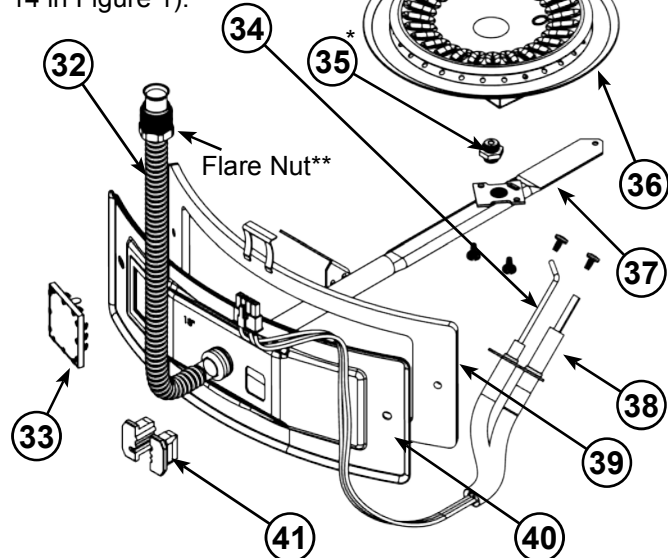
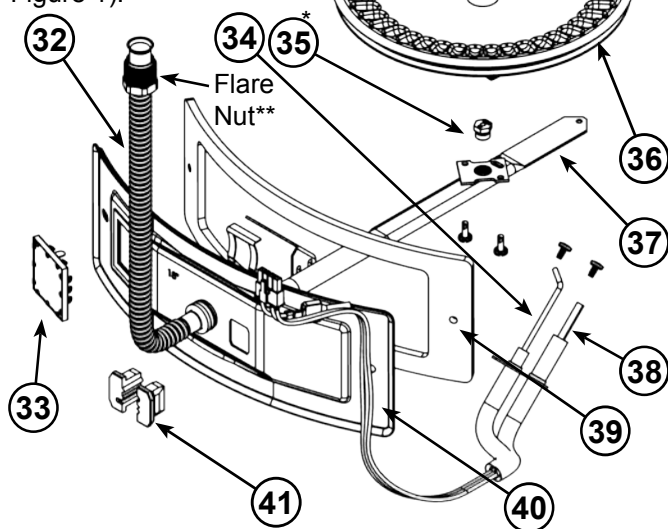

Figure 48.
Figure 49.
- 14 Manifold Door Assembly (behind outer door) (see Figure 3 & Figure 4) (see also Figure 48 and Figure 49)
- 32 Flexible Manifold Tube (see Figure 3 & Figure 4) (see also Figure 48 and Figure 49)
- 34 Flame Sensor Rod (see Figure 3 & Figure 4) (see also Figure 48 and Figure 49)
- 35 Gas Orifice (see Figure 3 & Figure 4) (see also Figure 48 and Figure 49)
- 36 Sheet Metal Burner (see Figure 3 & Figure 4) (see also Figure 48 and Figure 49)
- 37 Gas Manifold (see Figure 3 & Figure 4) (see also Figure 48 and Figure 49)
- 38 Hot-Surface Igniter (see Figure 3 & Figure 4) (see also Figure 48 and Figure 49)
- 39 Manifold Door Gasket (see Figure 3 & Figure 4) (see also Figure 48 and Figure 49)
- 40 Manifold Door (see Figure 3 & Figure 4) (see also Figure 48 and Figure 49)
- 41 Two Piece Grommet With Clip (see Figure 3 & Figure 4) (see also Figure 48 and Figure 49)